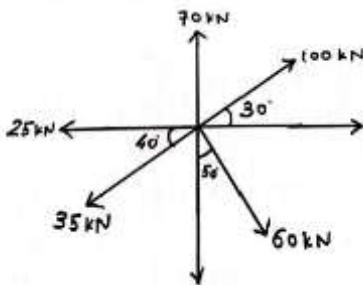

Figure 4
- (b) Determinate the magnitude and direction of resultant force of the force system as shown in Figure 4. [05]